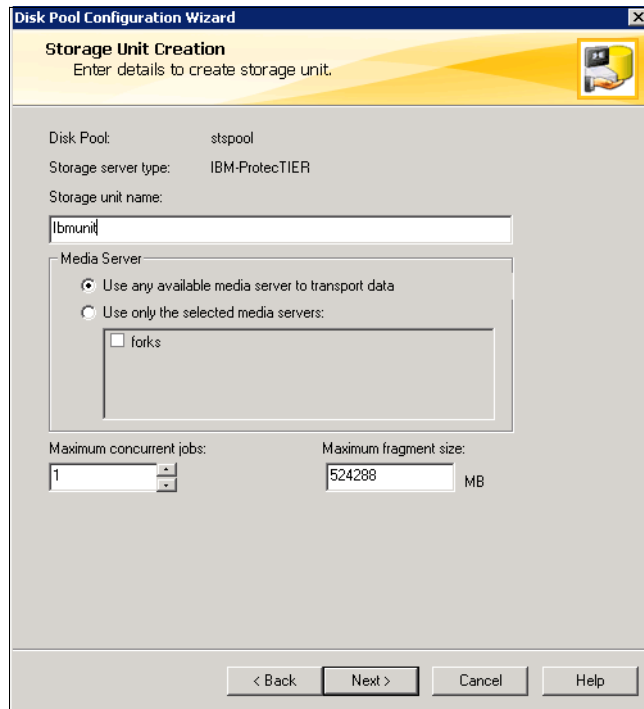

Figure 9-32 Storage unit creation window
2. Input the storage unit's name and click **Next** (Figure 9-32).